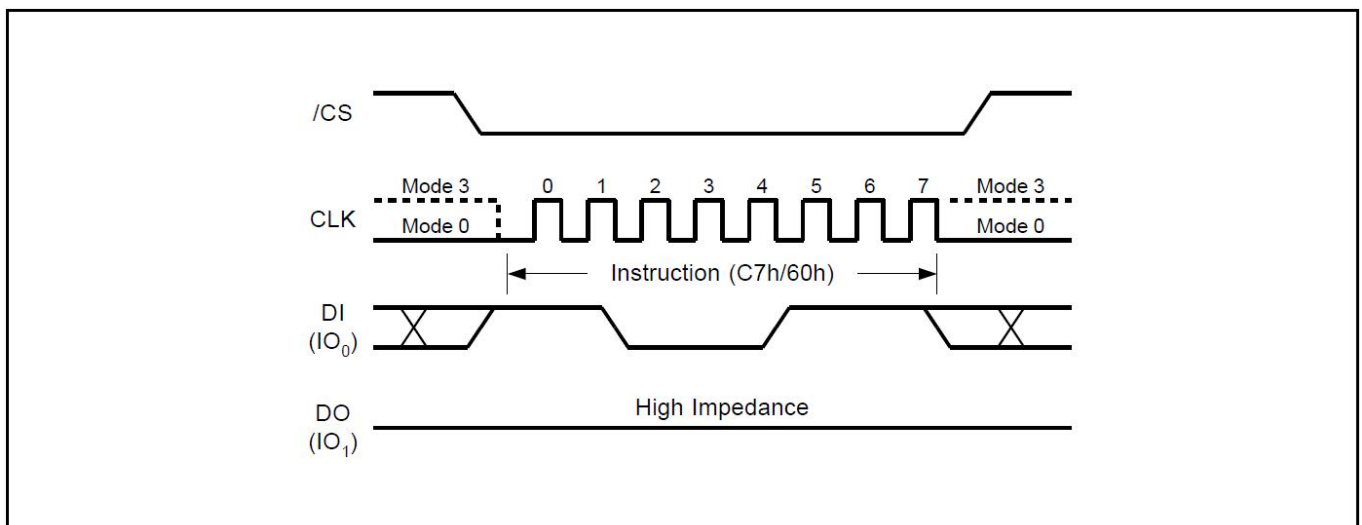

Figure13. Chip Erase Sequence Diagram
The Chip Erase command sequence: CS# goes low → sending Chip Erase command → CS# goes high. The command sequence is shown in Figure13. CS# must be driven high after the eighth bit of the command code has been latched in; otherwise the Chip Erase command is not executed. As soon as CS# is driven high, the self-timed Chip Erase cycle (whose duration is Tce) is initiated. While the Chip Erase cycle is in progress, the Status Register may be read to check the value of the Write in Progress (BUSY) bit. The Write in Progress (BUSY) bit is 1 during the self-timed Chip Erase cycle, and is 0 when it is completed. At some unspecified time before the cycle is completed, the Write Enable Latch (WEL) bit is reset. The Chip Erase (CE) command is executed, if the Block Protect (BP2, BP1, and BP0) bits are 0.